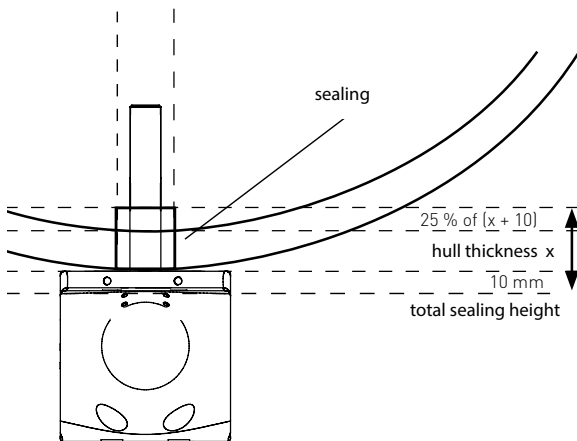
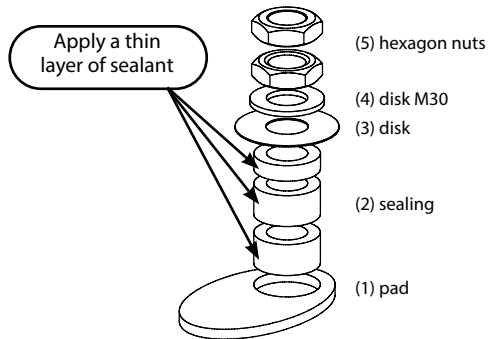
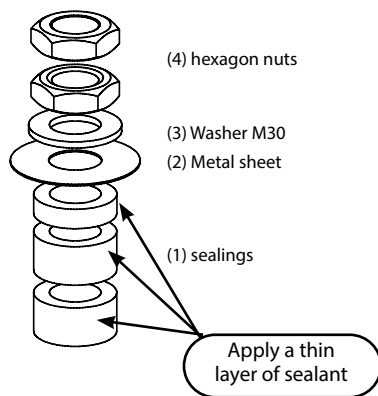

Fig. 10: Drilling and total sealing height
Fig. 12: main connection GRP
Fig. 20: main connection GRP
Bolt down the thruster via the main connection, thereby paying attention to the right number of seals (fig. 10). The sequence corresponds to the one in fig. 12, whereby, depending on the hull thickness, several seals (2) must be used. It is to be considered that those seals are compressed by about 25 % when tightening the bolts (fig. 10).
Bolt down the thruster via the main connection, thereby paying attention to the right number of seals (fig. 10) The sequence corresponds to the one in fig. 20, whereby, depending on the hull thickness, several seals (1) must be used. It is to be considered that those seals are compressed by about 25 % when tightening the bolts (fig. 10).